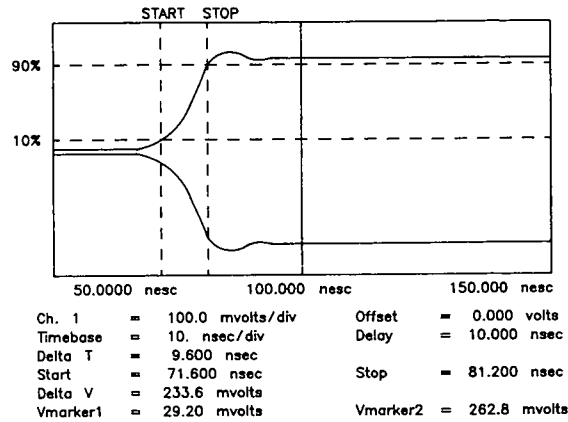

Figure 4-11. Oscilloscope Display
Figure 4-11 shows the RF Pulse as displayed on the oscilloscope. The Delta V markers are the approximate 10 and 90% Levels of the pulse envelope. The reading Δt is the Rise Time.
- Set the HP 8657B to the frequencies shown in the following Table. For each frequency measure the 10% to 90% Rise Time of the RF Pulse. The Delta V and Delta T Markers will require repositioning after each frequency change. To measure Fall Time will require a Shift Delay of +10 usec minimum on the oscilloscope to view the trailing edge of the pulse (including markers). Refer to Figure 4-11 for an example of the oscilloscope measurement display. The Rise and Fall Time should be within the limits shown in the Table.